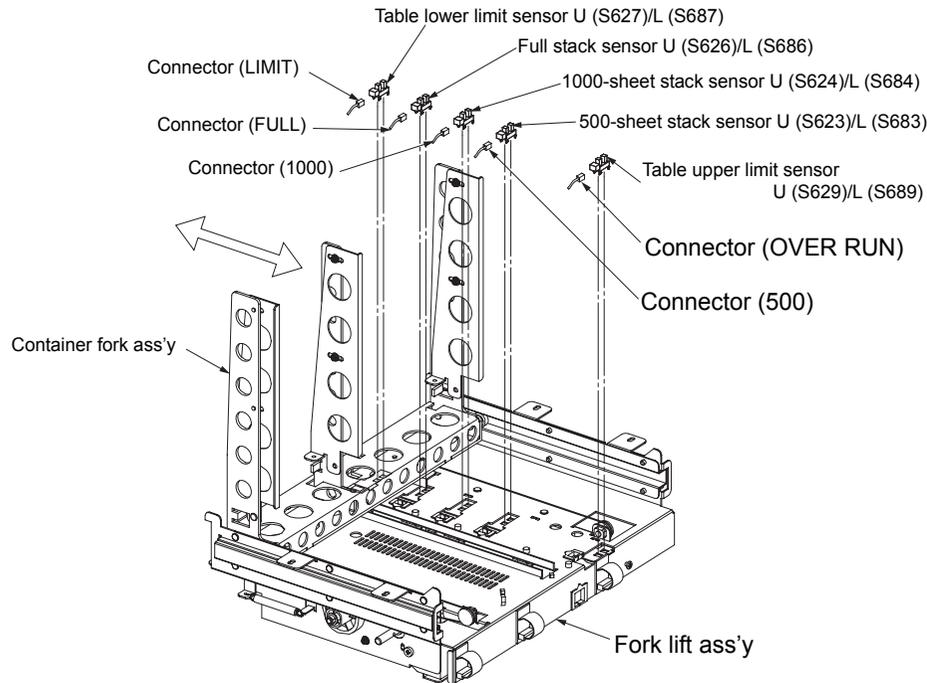

Fig. 6-31. Removal of the position sensor U/L
2. Position the fork lift ass'y as shown in Fig. 6-31.